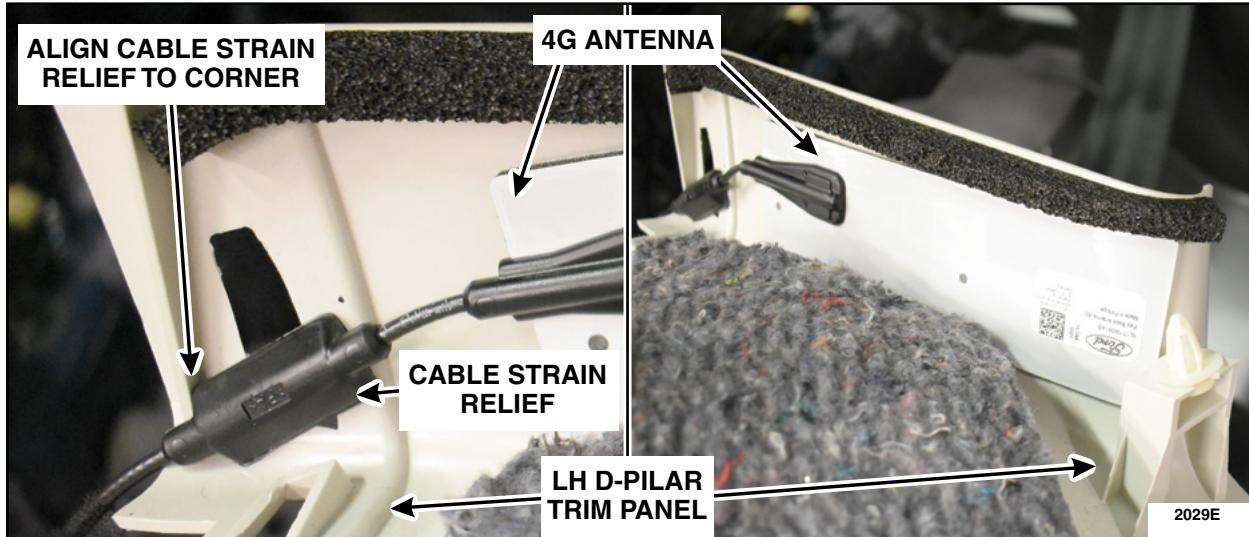

FIGURE 3
5. Install the new 4G antenna. See Figure 3.